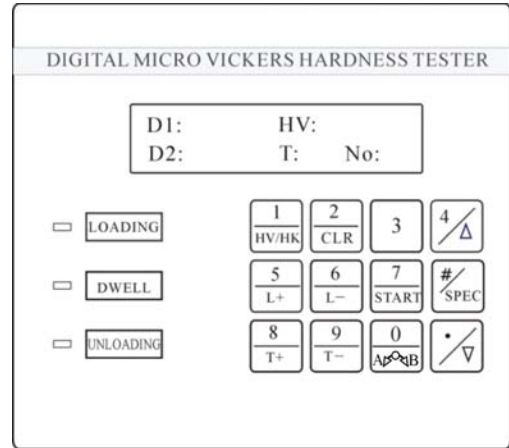

Fig 4
3.3 Introduction to the Panel Board and Its Functions (Fig.4).